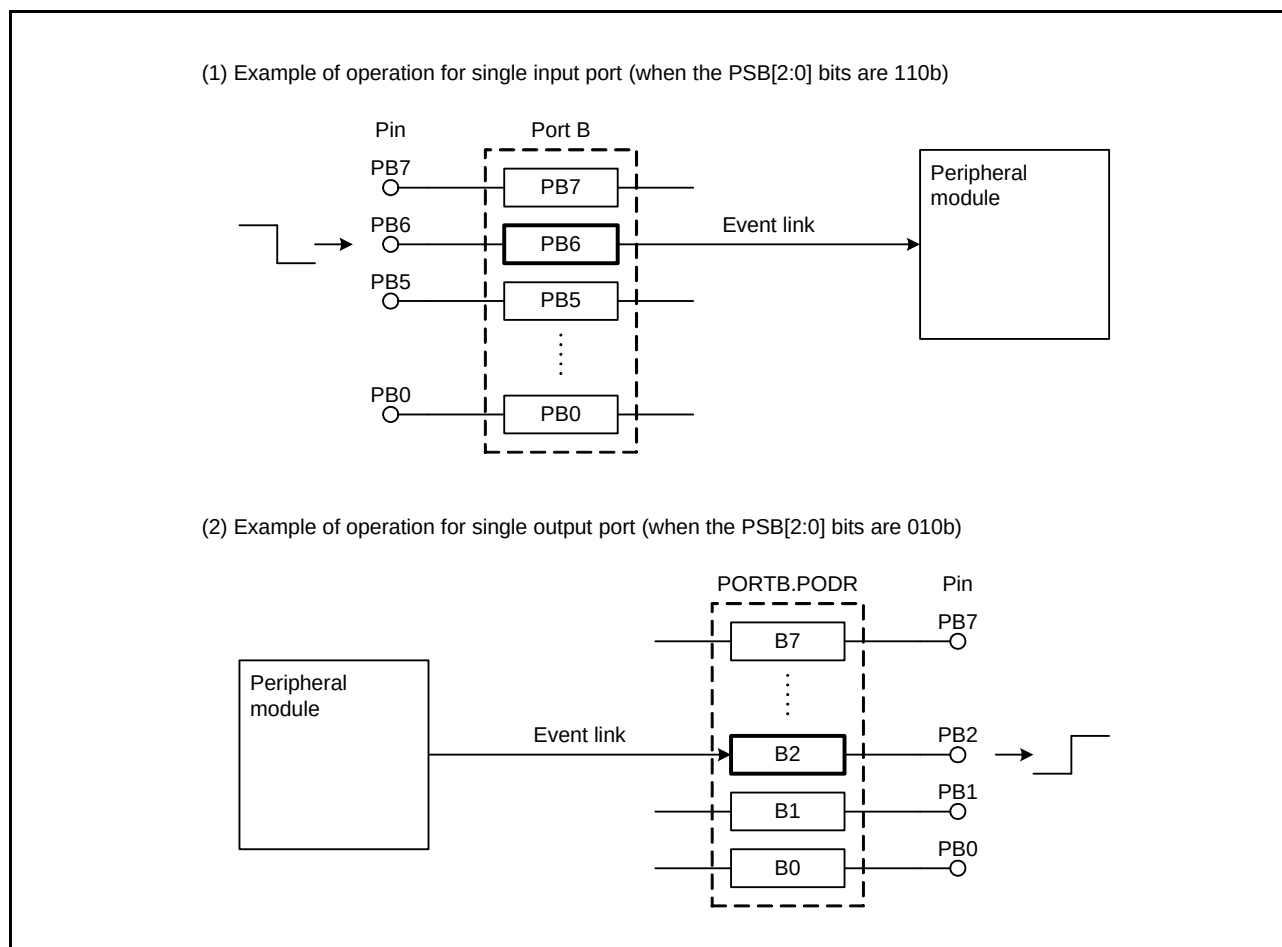

Figure 20.3 Event Linkage Related to Single Ports (Port B)
(2) Event Generation in Single Input Ports
A single port that is set as input generates an event signal when the input signal to the corresponding pin changes. The event generation condition is specified using the PELm.PSM[1:0] bits ($m = 0$ to 3). An example of operation is shown in Figure 20.3 (1).
(3) Single Output Ports Operation When Event Signal is Input
When an event signal is input to a single port set as output, the output level (the PODR register value) of the corresponding pin changes as specified by the PELm.PSM[1:0] bits. An example of operation is shown in Figure 20.3 (2).